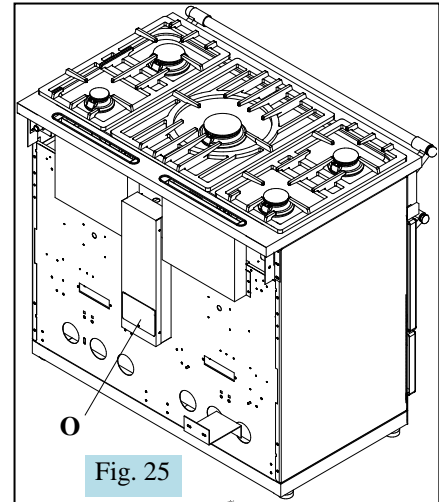
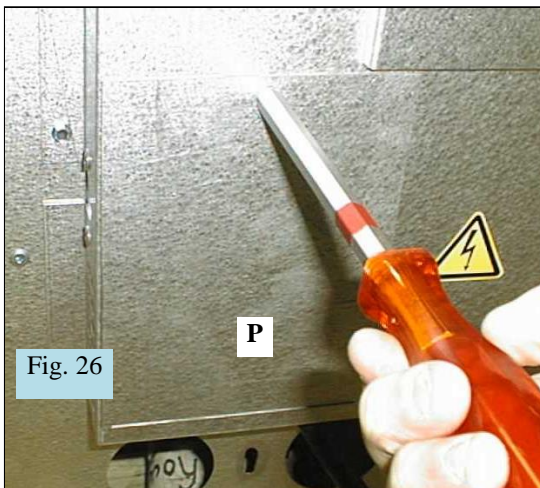

Fig. 25
Fig. 26
- Remove access door **O** (Figure 25, all gas oven range) or **P** (Figure 26, gas and electric range).